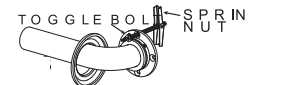

FIGURE 12
- Use the 3/8-inch power drill and 5/8-inch drill bit to drill six (6) holes where marked. **NOTE: If installing Grab Bar over ceramic tiles, the 5/8-inch carbide drill bit will be needed for drilling through tile, in order to prevent damage to tiles. Once a hole has been drilled through the tile, use the 5/8-inch drill bit to drill through the backing support for the tile.**
- Insert one (1) TOGGLE BOLT through any one of the mounting holes on one end of the Grab Bar. Start a spring nut on the end of the TOGGLE BOLT as shown (see Figure 12), screwing it onto the bolt about three turns. Repeat this step for the remaining two (2) TOGGLE BOLTS on that same end of the Grab Bar.